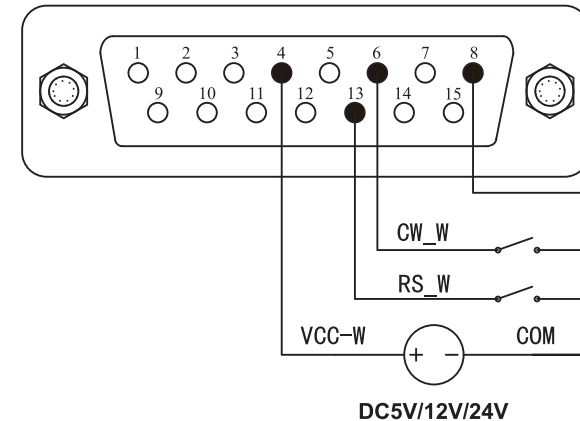
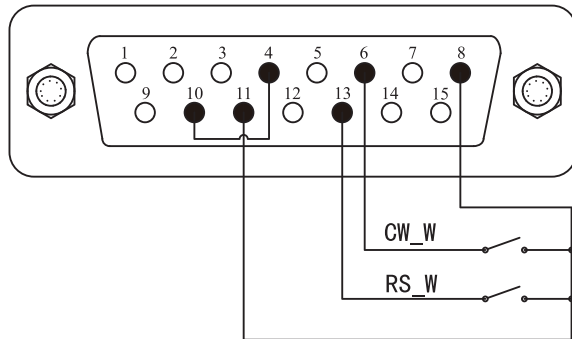

Figure 17 Wiring diagram of external power supply of level 2
Figure 18 Wiring diagram of internal power supply of level 2
- When the power is cut off, connect the circuit according to figure 17 or figure 18, and connect the DB15 interface to the back interface of the pump.